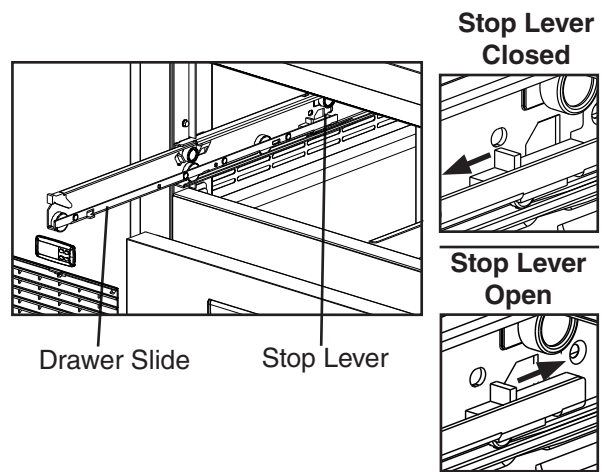

Fig. 48
- **To remove a drawer slide (center slide containing rollers):** Open the stop levers (one on each side) by sliding them to the rear. See Fig. 48. Lift up on the drawer slide slightly, then pull to disengage the drawer slide. **WARNING! Be sure to close the stop levers when reinstalling the drawer.** Drawer slides do not require lubrication, but drawer slides should be kept clean and free of food.